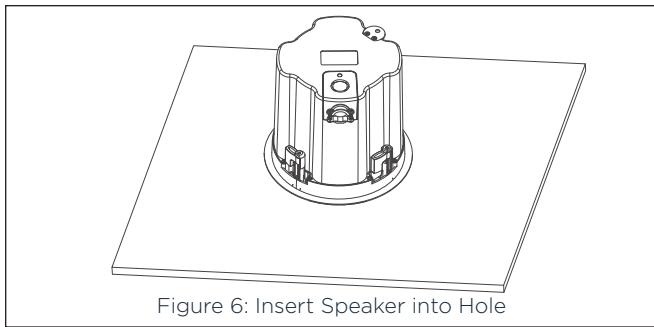

Figure 6: Insert Speaker into Hole
4. Make sure the Roto-Lock Clamps are in the full clockwise position so that all the clamps are tucked within the cutout border. Insert the speaker into the hole in the ceiling (see Figure 6).